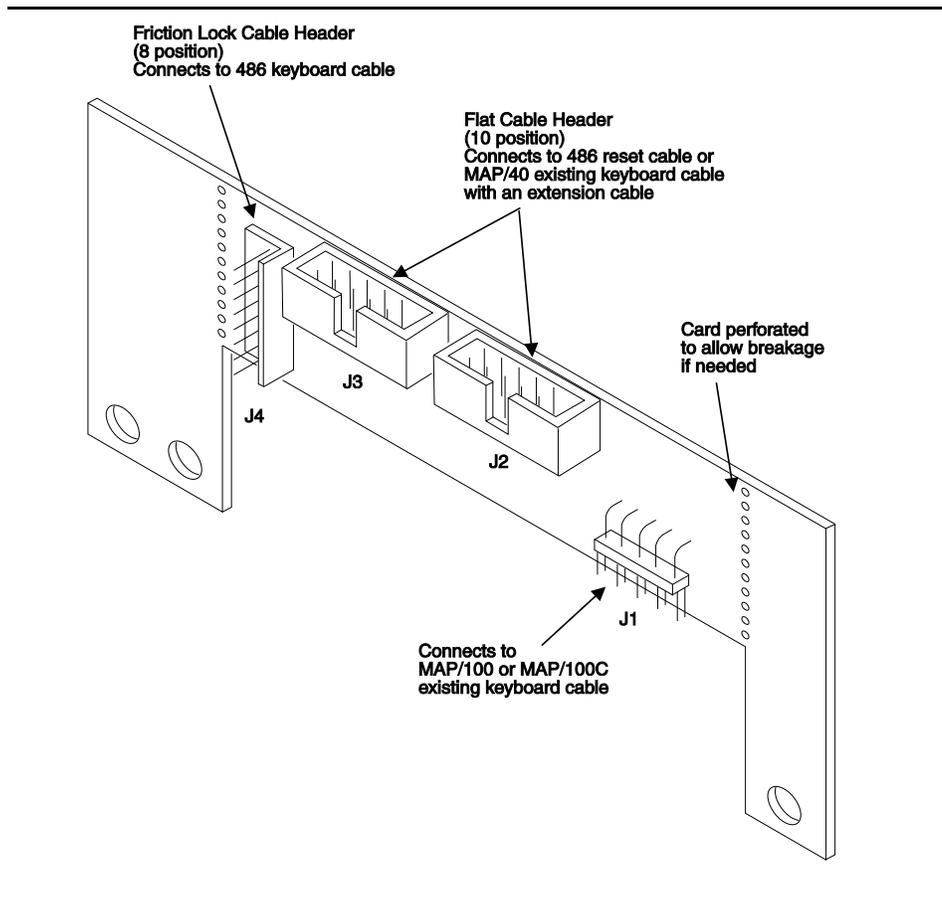

Figure 4-7. CPU/RMB Keyboard Adapter
1. Familiarize yourself with the keyboard adapter card. Refer to Figure 4-7.